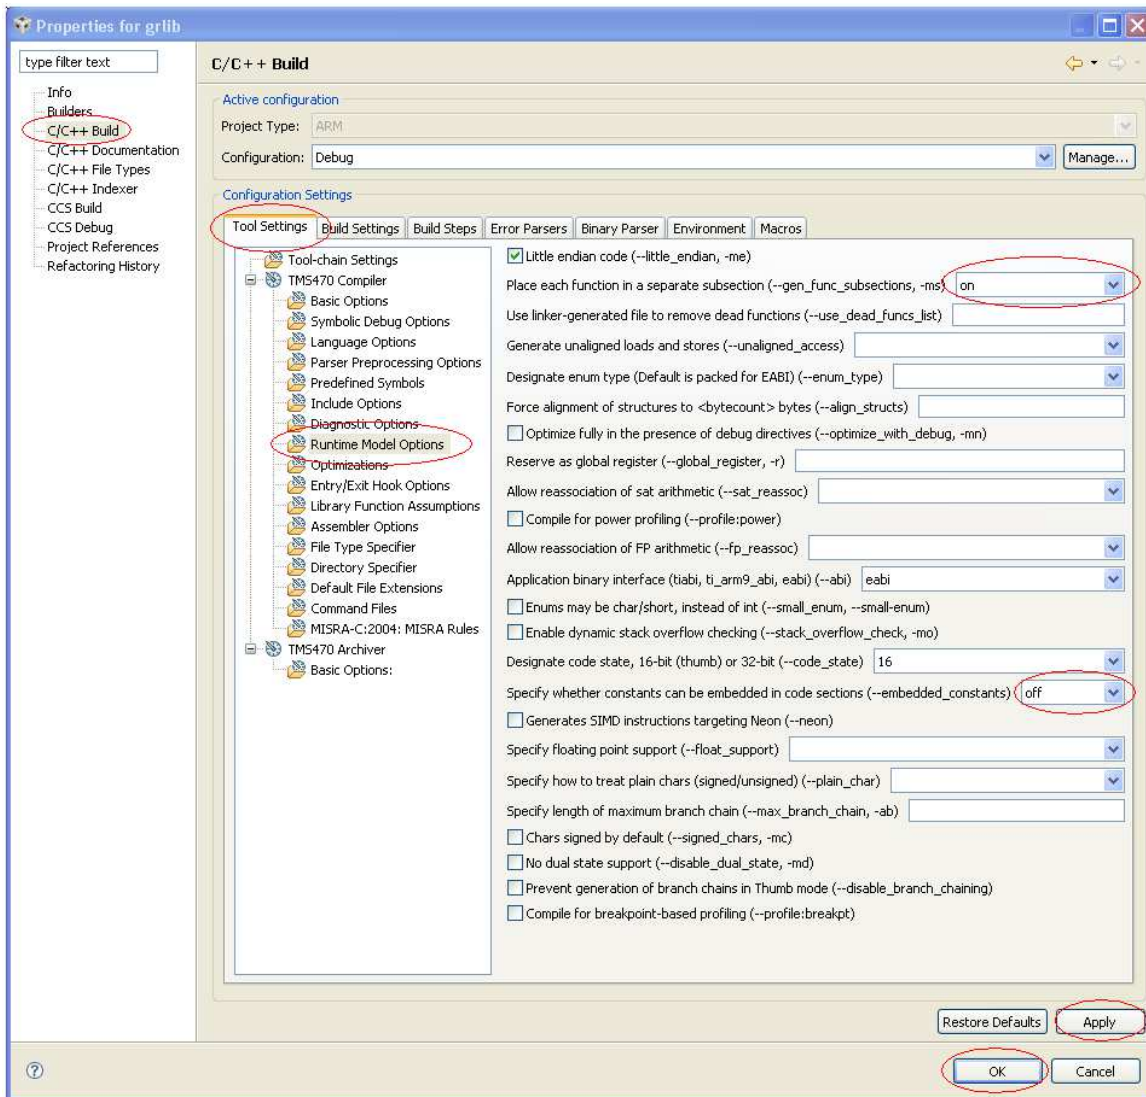

Figure 34. Properties for grlib (Debug)
8. Next, as shown in Figure 34 → select Predefined Symbols and add additional defines to the Pre-define NAME section by clicking on the  button. Add Pre-define NAMES as shown in the red circle in Figure 34. Pay attention to the letter cases and include the following two symbols: